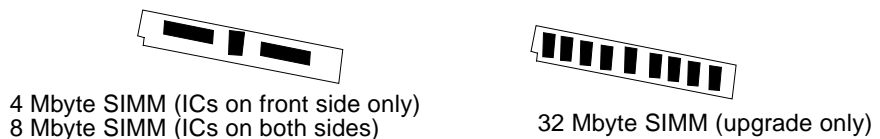

FIGURE 3-10 SIMMs
Remove the SIMMs from front to back. Press the small latch on each side of the SIMM that releases it from the slot (FIGURE 3-10).
- a. Remove first two SIMMs from slot D and slot C (FIGURE 3-10) and set them aside.
The SIMM is keyed and will fit only one way (notch in lower left corner) (FIGURE 3-10).